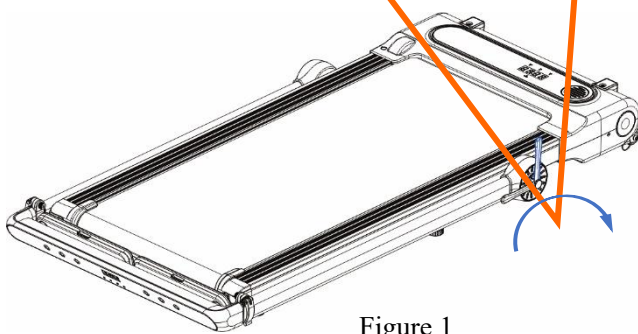

Figure 1
Step 1. First, take the treadmill out of the box and place it on level ground. Then, unlock the locking handle below (Figure 1); Lift the column up straight and tighten the lock handle. (Figure 2)